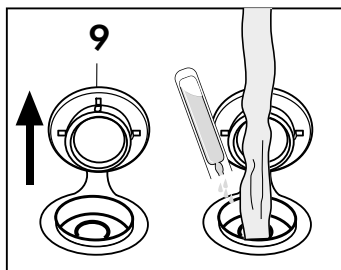

Fig. 20
- Remove the fill cap (9) (Fig. 20). Fill boiler with the contents of a 10 ml bottle, mix in 0.5 litres of water and operate as per normal.